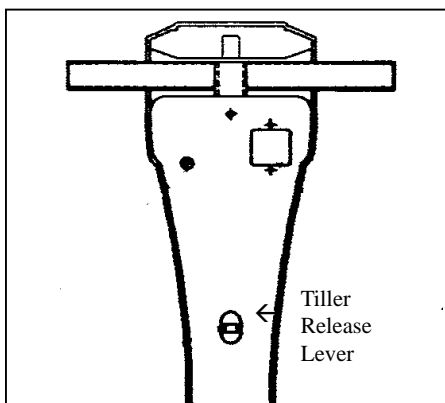

FIGURE 7
10. Push the tiller release lever to allow the tiller to pivot backwards toward the floor pan (See FIGURE 7).